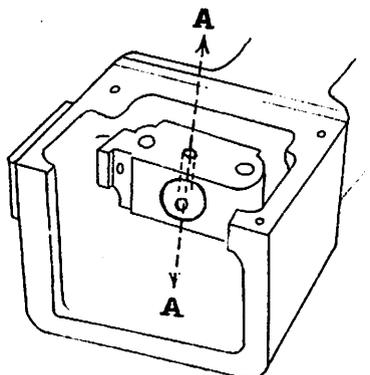

Figure No. 5
- B. Turn machine pulley by hand until holes in main shaft cam and feed dog carrier line up, see line A-A, Figure No. 5. Insert wrench No. 1-147C and loosen looper set screw, No. 1-152. Pull out old looper.
- E. Next return machine to position A-A, Figure No. 5, and tighten set screw securely. Be sure looper does not move out of position.